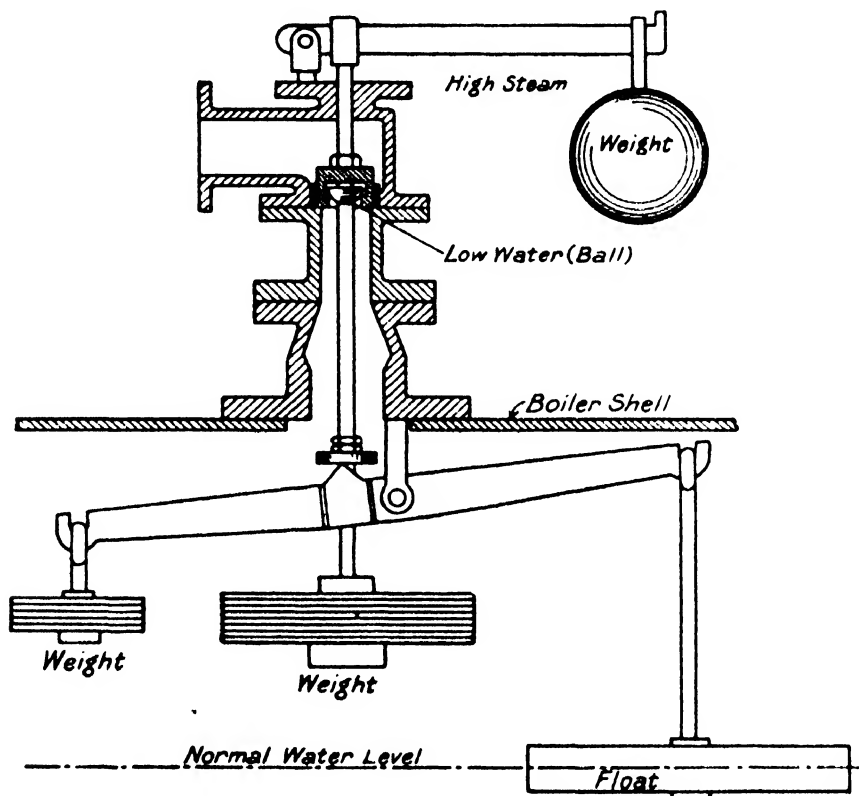
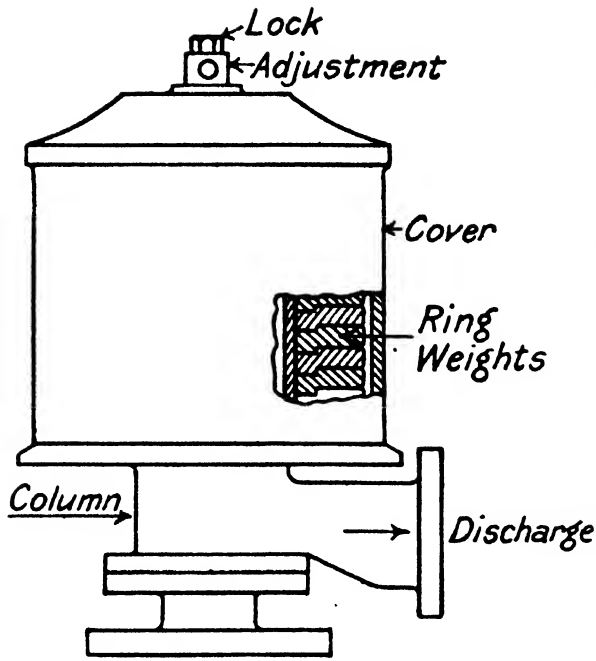

FIG. 107.—The High and Low Safety Valve.
FIG. 109.
The sketch Fig. 107 depicts the high steam and low water valve as fitted to all Lancashire and similar boilers. As will be observed, there is a lever inside the boiler carrying a float
**The Dead-weight Valve.**—The dead-weight valve, as its name implies, is a heavy weight consisting of a number of cast iron annular rings saddled upon a valve similar in construction to that shown in Fig. 107; the area of the latter decides the weight. A common diameter for the dead-weight valve on a large Lancashire boiler is 2 in. and for the D.W. valve the boiler engineer will calculate the weight for an area of  $2\frac{1}{8}$  in. diameter, to be assured of retaining the full working pressure of steam within the boiler. The sketch (Fig. 109) shows the standard type of D.W. valve.
**The Weighted Lever Valve.**—The weighted lever valve, as seen in Fig. 107, is well known. The cheese weight is made and adjusted to suit the working pressure. This type of valve is common enough for all purposes of safety, but the spring loaded types are gaining greater favour everywhere, being more compact and quite as efficient.